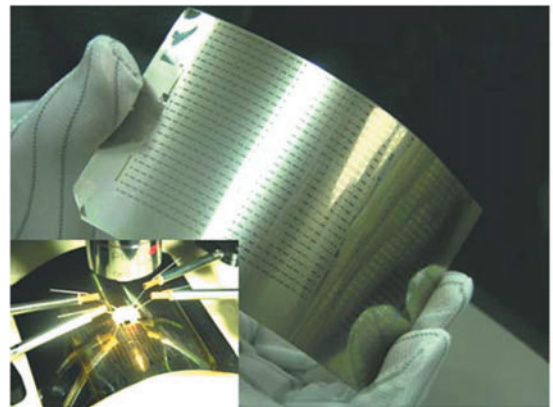

FIGURE 7 — IGZO TFTs fabricated on stainless-steel foil.
Figure 7 shows as-fabricated IGZO TFTs on a stainless-steel foil. 100- μm -thick stainless foils have sufficient flexibility to be bent into a curve with the radius (R) of 40 mm. IGZO TFTs were fabricated with a 50- μm channel width (W) and 20- μm channel length (L). Figure 8(a) is the transfer characteristic curve of the IGZO TFT. The IGZO TFT showed a high drain current (I_{DS}) of 120 μA for the conditions of $V_{\text{GS}} = 10 \text{ V}$ and $V_{\text{DS}} = 10 \text{ V}$. Moreover, the TFT showed a low off-current of about 2 pA, which resulted in a high on/off ratio of over 10^7 .